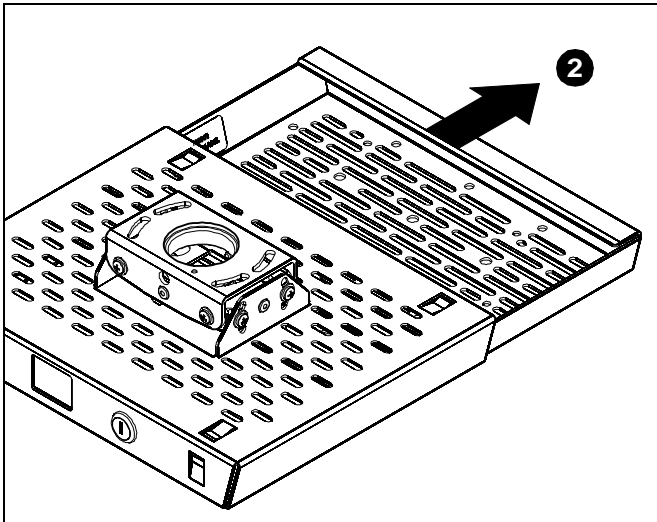

Figure 1
2. Remove drawer from MSP-CCS1 outer sleeve. (See Figure 1)